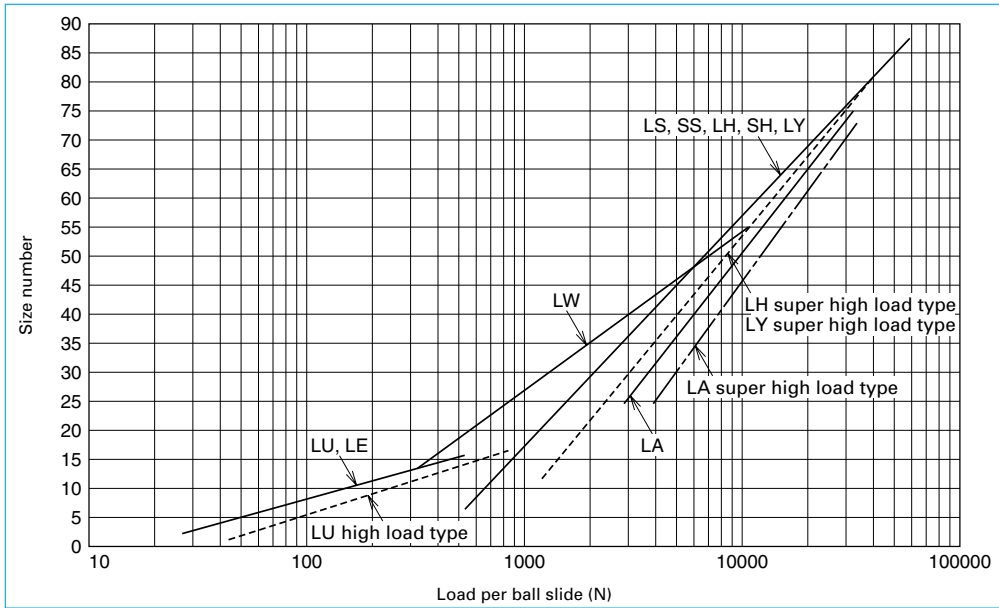

Fig. I-3-4 Selection based on the load
Upon obtaining the load value P per ball slide by using the above position coefficient K_p in (3.1), select the matching size (model number) from Fig. I-3-4. Because the above calculation formula is a simple one, the load obtained by the above formula may be larger than the actual case if the value of K_p is over 1, or in the case three patterns (A), (B), and (C) are combined. In such case, the size to be selected (model number) should be larger; however, the life will be longer.
- Loads applied to the types recommended in Fig. I-3-4, I-3-8, and I-3-9 are equivalent to 8% of the basic dynamic load rating of the linear guide. This contributes to select a size number with a longer life.
The appropriate size is around 30 for LH, LS, and LY types according to Fig. I-3.4. Confirm the size (Model number) in "A-I-5 Model Number and Dimension Table." The correct linear guide size is LH30AN. Calculate the life expectancy using "A-II-3.2 How to Calculate Life."